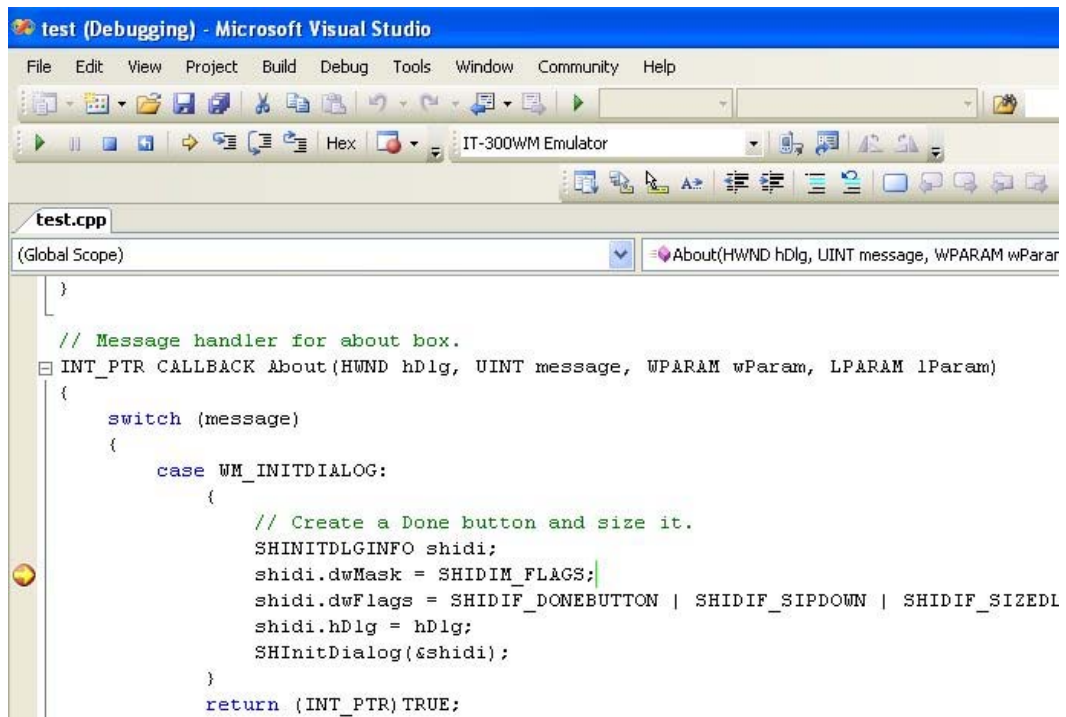

Figure 7.20
2. Similar to ordinary debugging operations with an actual IT-300, the **Device Emulator** allows break point setting (circled in red in Figure 7.20) in the source code and step-by-step debugging.